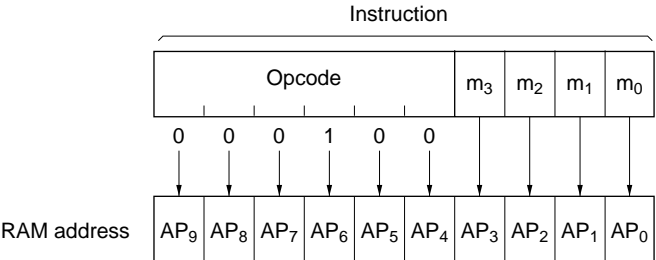

Figure 3-2 RAM Addressing Modes
The HMCS400 CPU supports the three RAM addressing modes shown in figure 3-2.
- (1) Register Indirect Addressing Mode:** Register indirect addressing mode instructions consist of one word, and use the W, X, and Y registers to form a 10-bit RAM address. (See figure 3-2 (1).)
- (2) Direct Addressing Mode:** Direct addressing mode instructions consist of two words. The first word is the opcode and the second word specifies a 10-bit RAM address. (See figure 3-2 (2).)
- (3) Memory Register Addressing Mode:** Memory register addressing mode instructions consist of one word, in which the upper 6 bits specify the opcode and the lower 4 bits specify one of the memory registers 0 to 15. (See figure 3-2 (3).)